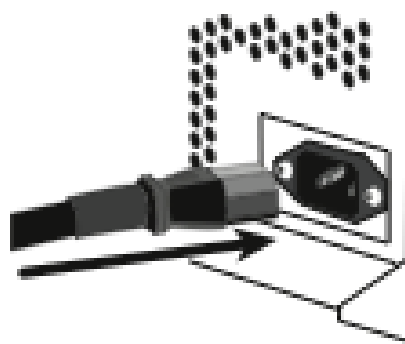

Fig. 4
7. Plug in the recommended undamaged IEC-GFI cord properly into the side of the machine itself as in Fig. 4 and then into a live 120v AC circuit or a 1000 generator that can handle an 8.6 Amps start-up. **REMEMBER TO NEVER USE AN ECO MODE ON ANY GENERATOR. TURBINE BLOWER WILL NOT START AND THIS MAY DAMAGE THE COMPRESSOR'S START CAPACITOR.**